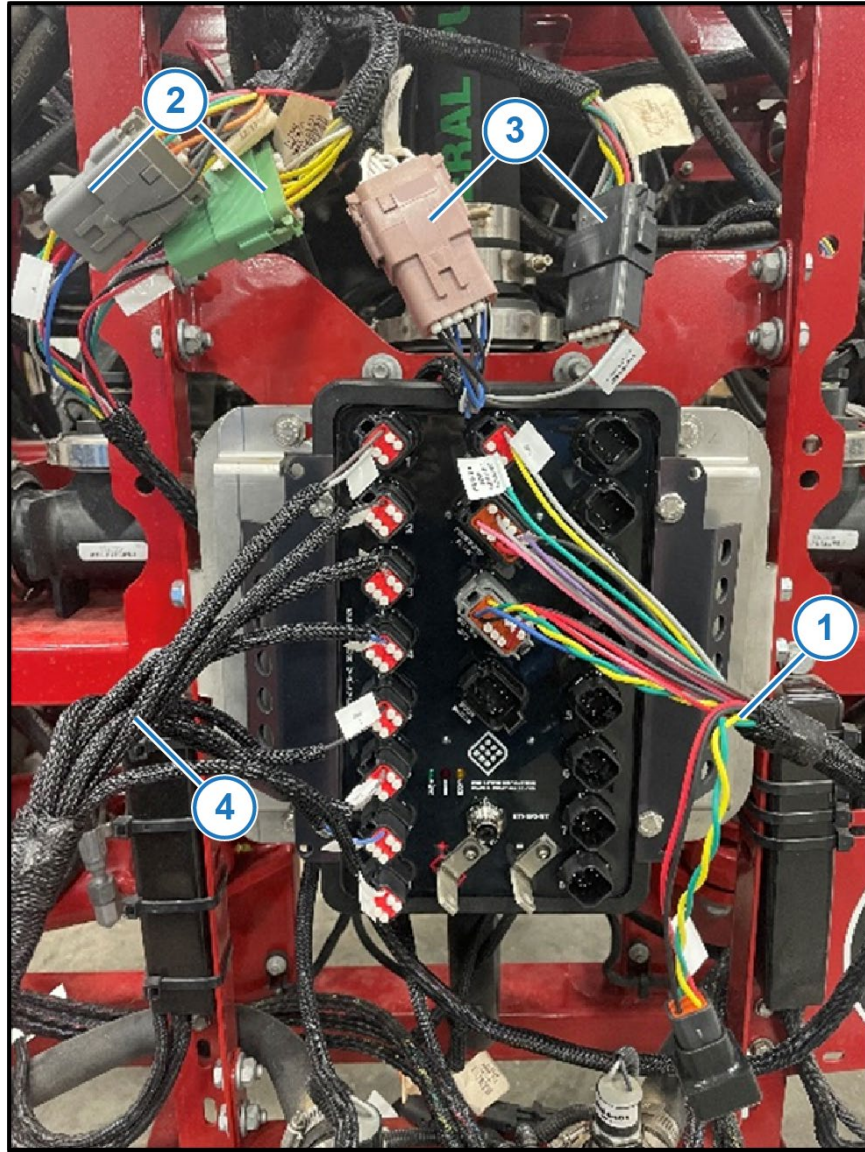

Figure 5 — PCII Replacement Harness Connections
6. *Figure 5:* Plug PCII Node Replacement Signal Harness (118606-819) (1) into Envelop Hub's Servo, Pressure/Flow, and ISOCAN/GPS ports and into corresponding green and gray plugs on machine (2).
7. Plug PCII Node Replacement Shutoff Harness (118606-827) into corresponding brown and black plugs on machine (3) and boom section signals connectors into their matching labeled Section Valve ports (4).